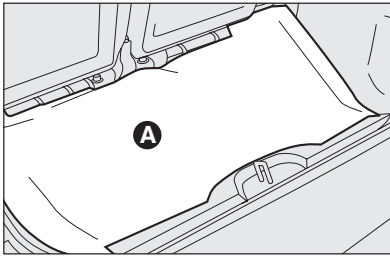

fig. 3
- lift the boot mat **A-fig. 3**;
- stow the small spare wheel **D**-fig. 3 in the space provided in the boot;